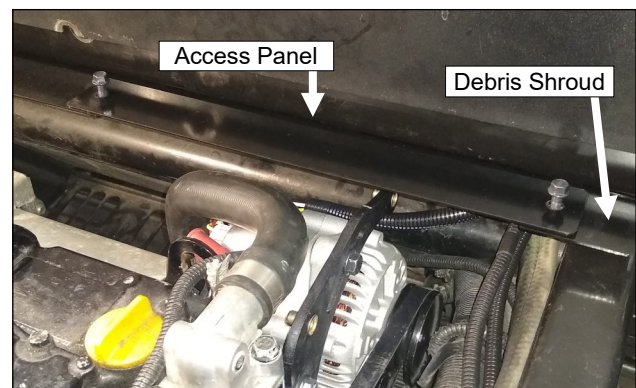

Fig. 5.1 Debris Guard Access Panel
- 5.1 Per fig. 5.1, remove the access panel found on the debris shroud previously installed during step 3.8. Set aside panel and hardware.